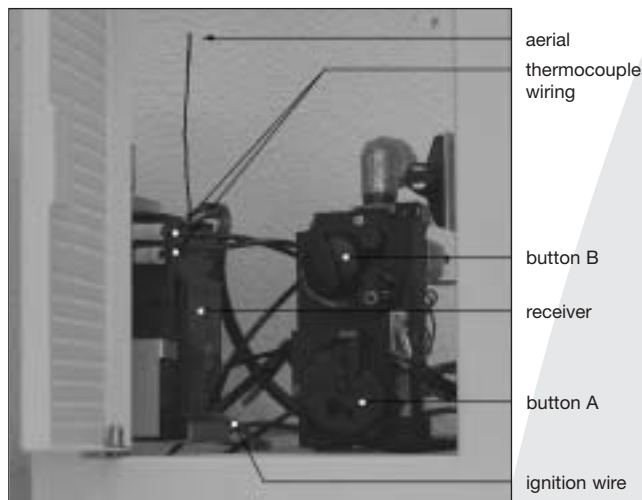

fig. 29
The receiver is located in the control box (see fig. 29).
- Place the receiver as indicated in fig. 29
- Do not place the antenna too close to the ignition cable and/or metal parts: make sure the antenna is pointing upwards (for the correct position, see fig. 29);